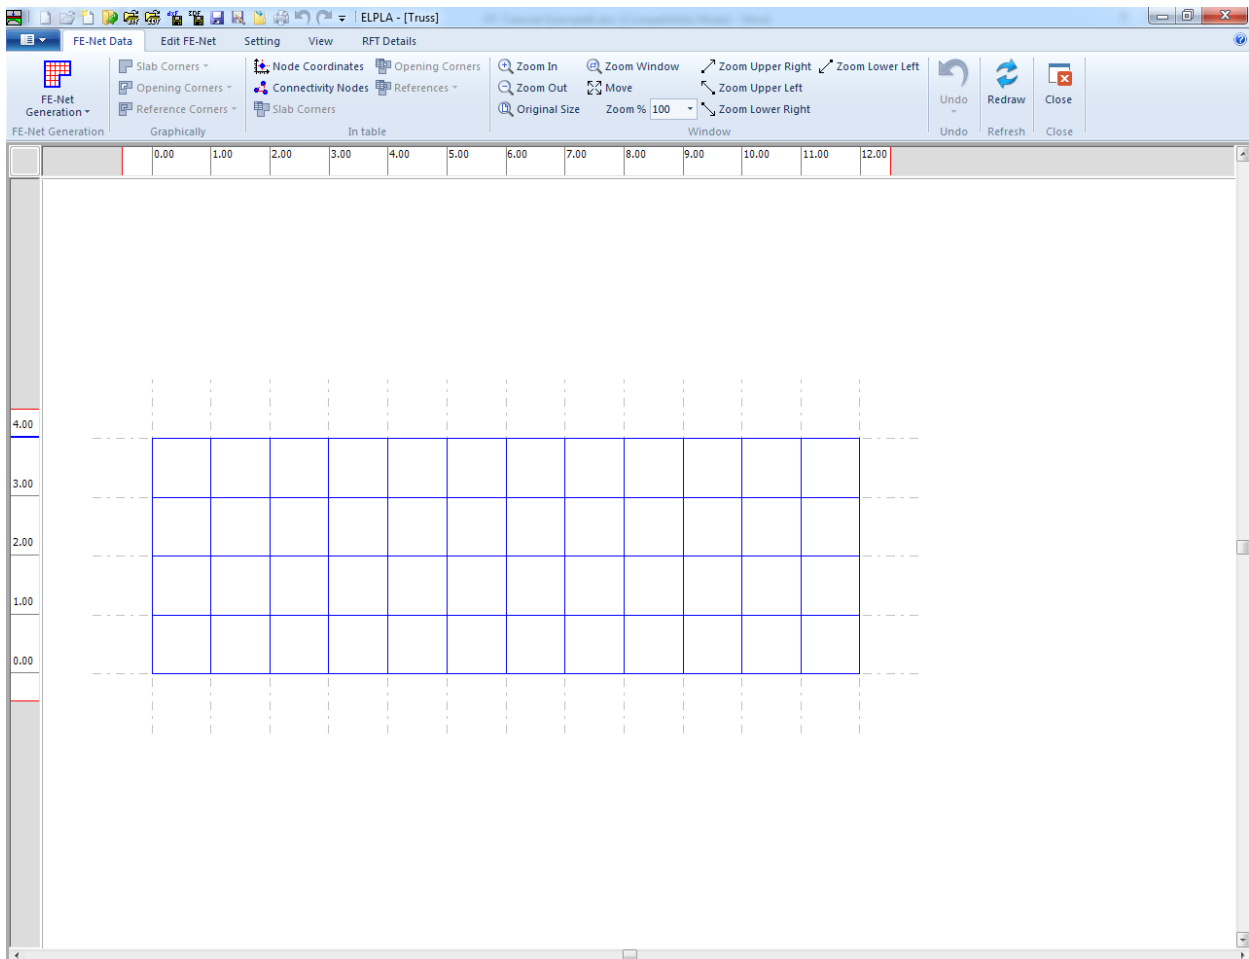

Figure 6.10 Imaginary net of a rectangular area
ELPLA will generate an imaginary net for a rectangular area of 12 [m] length and 4 [m] width with square elements of 1.0 [m] each side. The following Window in Figure 6.10 appears with the generated imaginary net.
- Choose "Save" command from "File" menu in Figure 6.10 to save the data of the imaginary net.
- Choose "Close" command from "File" menu in Figure 6.10 to close "FE-Net" Window and to return to the main window.